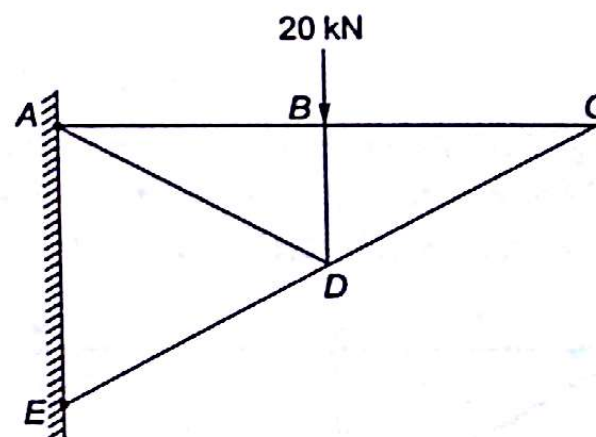

Fig. 4.52
4.23 For the truss shown in the Fig. 4.52, which one of the following members has zero force induced in it?